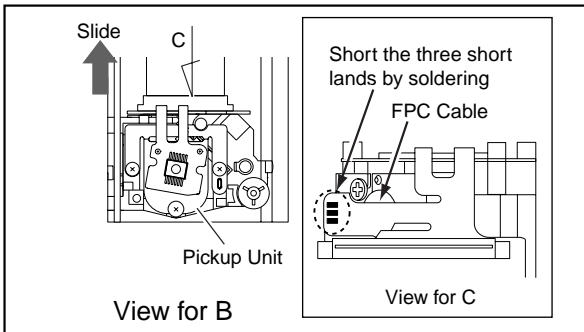

Fig. D5
CAUTION 2: Do not disconnect connector CN201 until the three short lands of FPC is shorted as shown in Fig. D5. Refer to below.
- 3-1. Short the three short lands of FPC cable with solder before removing the FFC cable (CN201) from it. If you disconnect the FFC cable (CN201), the laser diode of pickup will be destroyed. (Fig. D5)
- 3-2. Disconnect Connector (CN301) and lift the DVD Main CBA Unit. (Fig. D5)
CAUTION 4: When reassembling, confirm the FFC cable (CN301) is connected completely. Then remove the solder from the three short lands of FPC cable. (Fig. D5)